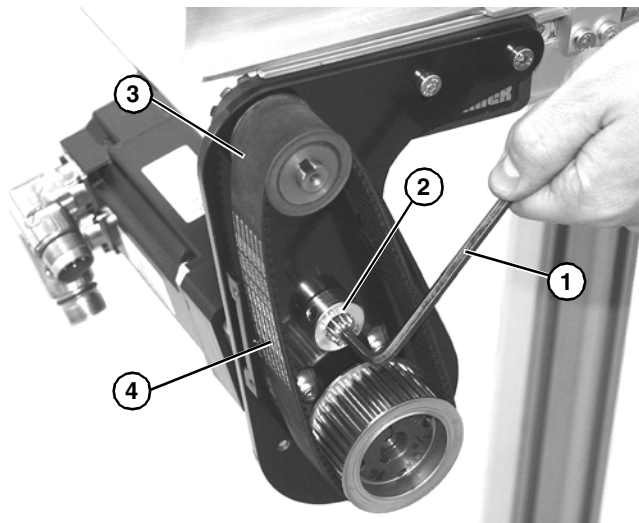

Figure 51
3. Use a hex wrench (**Figure 51, item 1**) to turn tensioner adjustment fitting (**Figure 51, item 2**) to tighten belt (**Figure 51, item 3**).
4. Depending on conveyor belt travel (direction A or B), locate timing belt tensioner (**Figure 51, item 2**) as shown. Tension timing belt to obtain 1/8" (3 mm) deflection for 6 lb (3 Kg) of force at timing belt mid-point (**Figure 51, item 4**). Tighten tensioner screw to 110 in-lb (12 Nm).
5. Depending on conveyor belt travel (direction A or B), locate timing belt tensioner (**Figure 51, item 2**) as shown. Tension timing belt to obtain 1/8" (3 mm) deflection for 6 lb (3 Kg) of force at timing belt mid-point (**Figure 51, item 4**). Tighten tensioner screw to 110 in-lb (12 Nm).